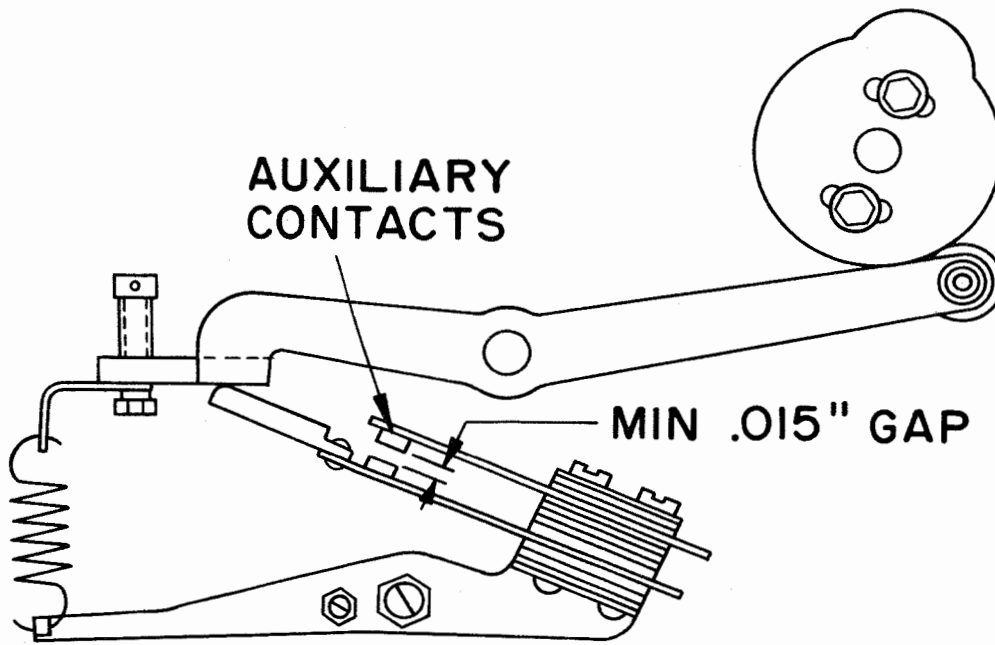

Figure 43
12.03 When the operating lever roller is on the low part of the cam, the contact gap shall be at least 0.015 inch. (See Figure 43.)